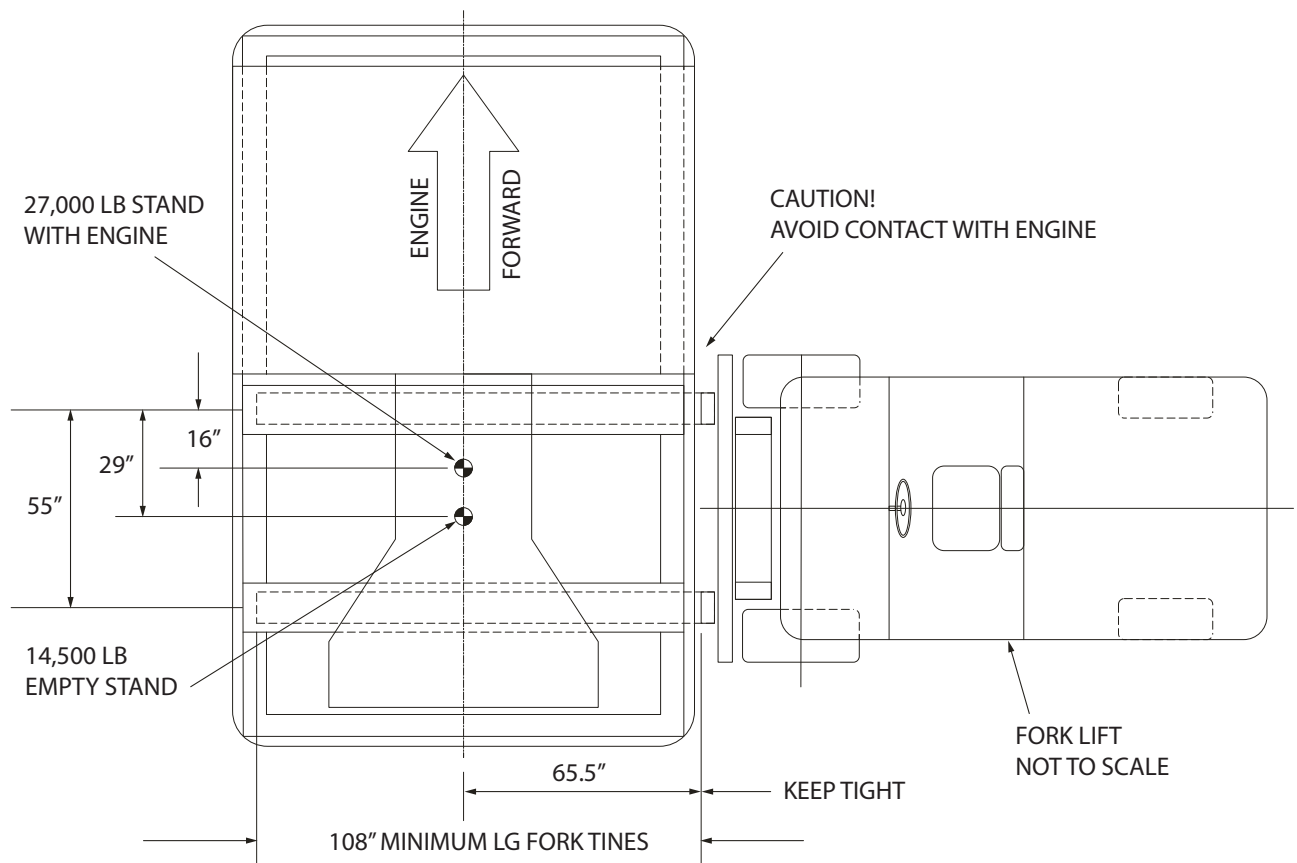

Figure 5.4.1
5.4.1 Fork Lifting (Figures 5.4.1)
Stand can be forklifted from either side of stand. A sling (AGSE-L018/11C4484P01 or AGSE-L038/11C4484P02) with spreader beam can also be used and must be attached to the four (4) designated hoist points on the base. Approximate weight of stand and engine is 28,400 Lbs. CG is behind FWD cradle roll frame. (See Figures 5.4-1, 5.4-2).